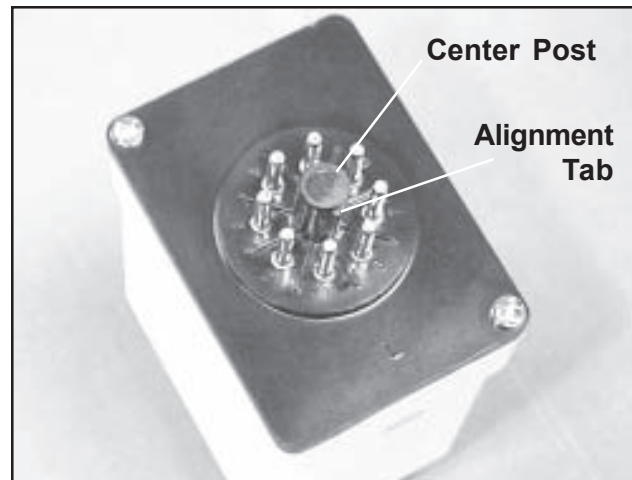

Figure 143. Time Delay Relay Alignment Tab
4. **Note:** An alignment tab on the time delay relay center post matches a slot in the octal base (Figures 143 and 145). Making sure that the tab and slot align, push the new relay fully into place on the octal base.